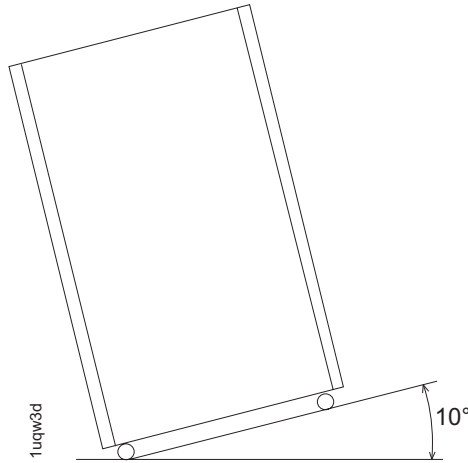

Figure 17. Maximum tilt for a packed unit is 10°
3. To compensate for the weight of the DS8000 shipment, ensure that the loading ramp at your site does not exceed an angle of 10°. (See Figure 17.)